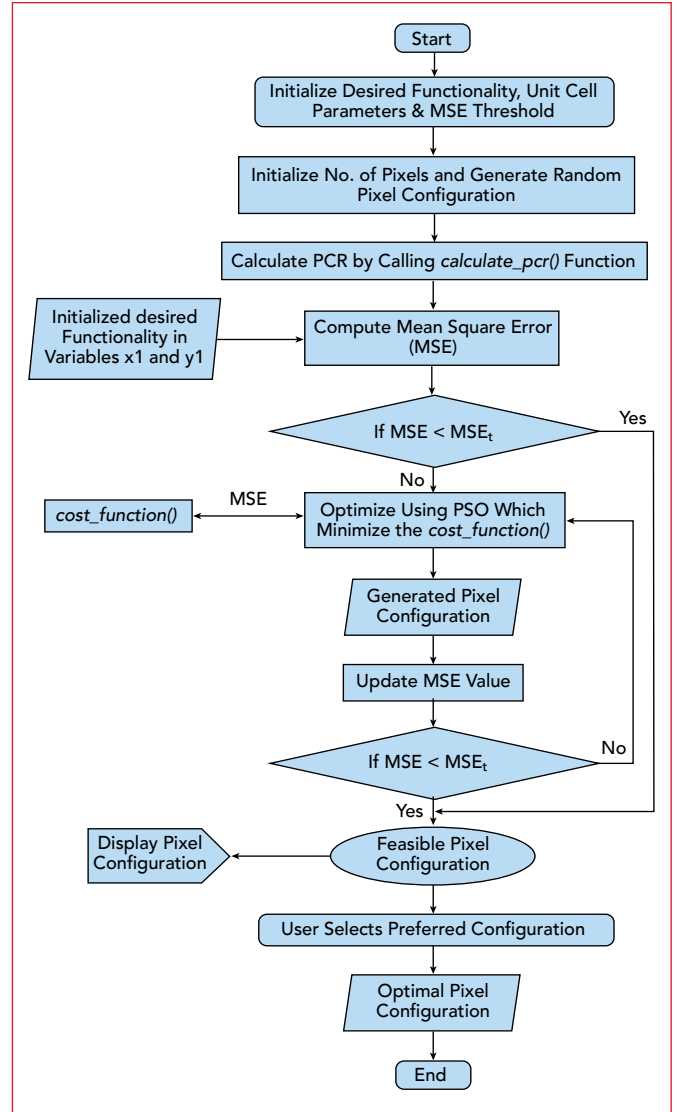

Fig. 2 Design algorithm flowchart.
metrics such as the number of PEC patches, co- and cross-polarized insertion loss (IL) and co- and cross-polarized return loss (RL). The iterative procedure ensures the efficient design of the pixelated meta-atom for a desired functionality. The design algorithm is robust for developing non-intuitive metasurfaces for microwave and antenna engineering applications. A flowchart of the algorithm is provided in **Figure 2**.